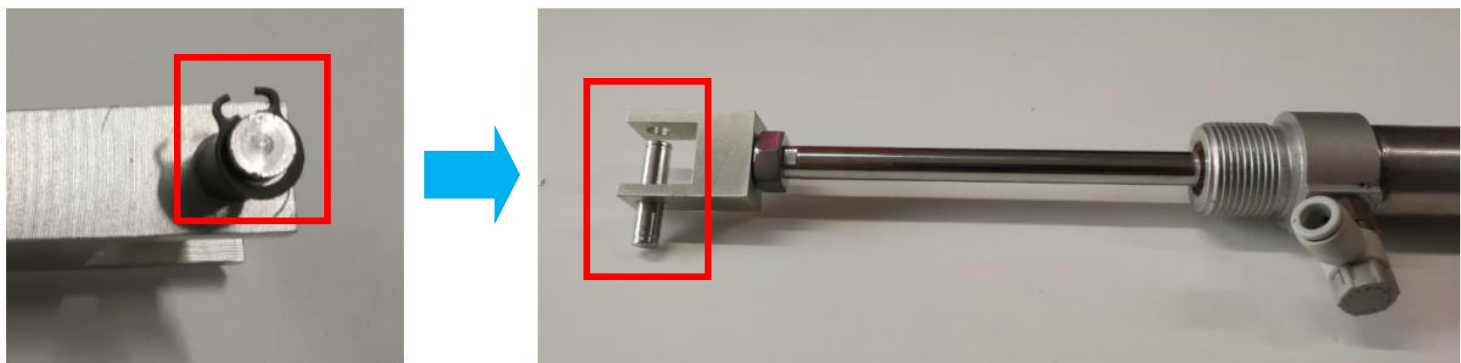

Figure 11
15. Gently remove another C-Clip at Front Extension Block as Figure 11